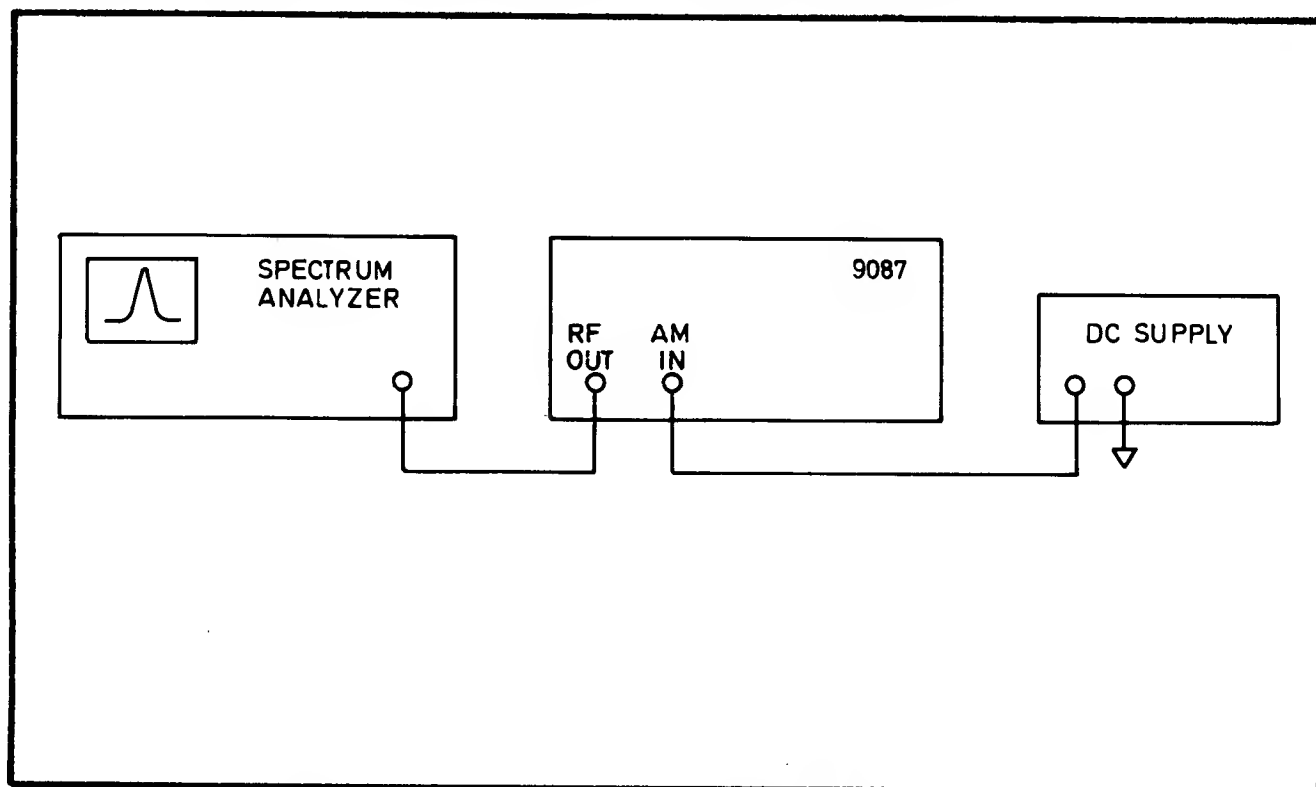

Fig. 7.24 Connections for Pulse Modulation PVP
7.9.2.5.8 Connect the test equipment as shown in Fig. 7.24.